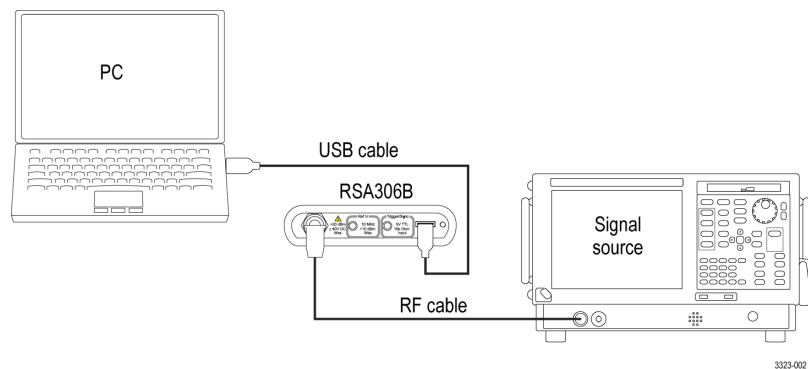

Figure 2: Instrument connections
2. Connect an RF cable between the RSA306B input and the signal source. (See Figure 2.)